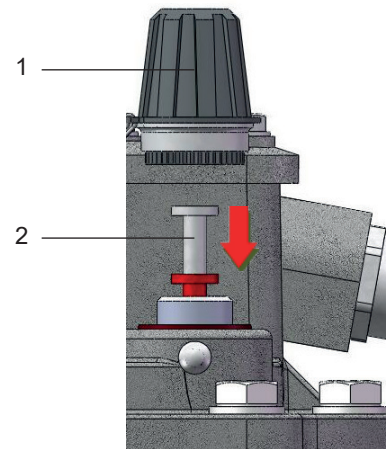

Fig. 8 - Test key
- Remove the large cap nut (Fig. 8/ no. 1).
- Press the test key (Fig. 8/ no. 2) down to stop position and keep it depressed.